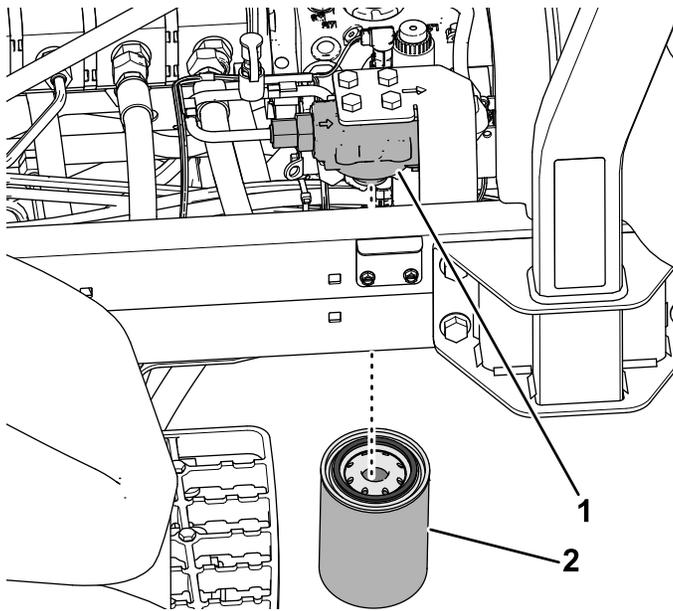

Figure 107
3. At the left side of the machine, align a drain pan under the charge filter (Figure 107).